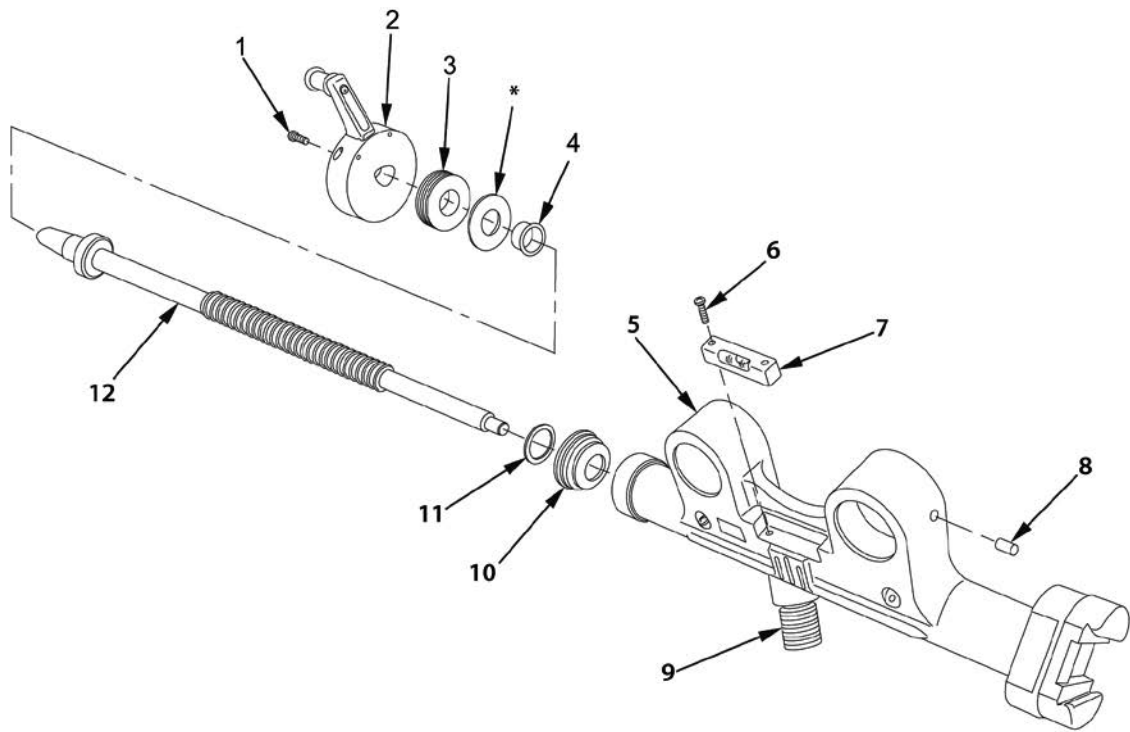

Figure 1. Removal of Shoulder Screw from Traversing Yoke.
1. Remove socket head capscrew (Figure 1, Item 1) and hand crank (Figure 1, Item 2).
2. If damaged, remove two headless straight pins (Figure 1, Item 8) from traversing yoke (Figure 1, Item 5).
3. If damaged, remove two socket head capscrews (Figure 1, Item 6) and level (Figure 1, Item 7) from traversing yoke (Figure 1, Item 5).
4. Using face wrench socket, remove mounting plate (Figure 1, Item 3).
5. Remove sleeve bearing (Figure 1, Item 4) from mounting plate (Figure 1, Item 3). Discard sleeve bearing.
6. Unscrew shoulder screw (Figure 1, Item 12) from flange tee (Figure 1, Item 9) and remove from traversing yoke (Figure 1, Item 5). Remove shim(s) if present. Remove traverse screw retainer (Figure 1, Item 10) and flat washer (Figure 1, Item 11) from shoulder screw (Figure 1, Item 12). Discard flat washer.